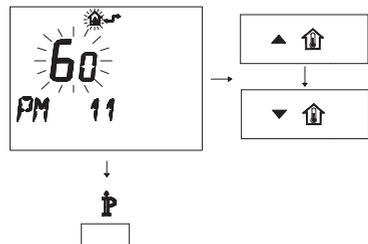

Fig. 8.21
- To modify the programmed SET, act on buttons ▲⏠ or ▼⏠ and wait for the programmed number to flash (Fig. 8.21). Each step increased or decreased corresponds to 1 second.